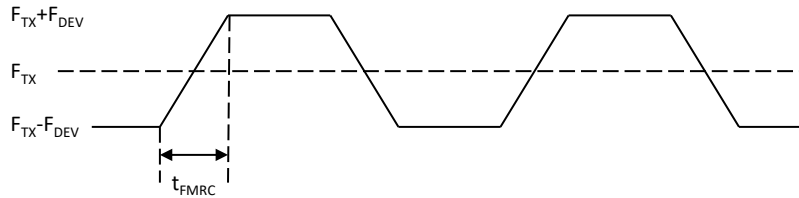

Figure 6.16 Soft-FSK Modulation Wave
Soft-FSK function is implemented to reduce FSK modulation bandwidth. In Soft-FSK, modulation is applied in ramp shape shown in **Figure 6.16**.
t_{FMRC} shown in **Figure 6.16** is calculated by formula (9). The FMRC in formula (9) determines the inclination of ramp shape and is assigned to SFR address 0x10.